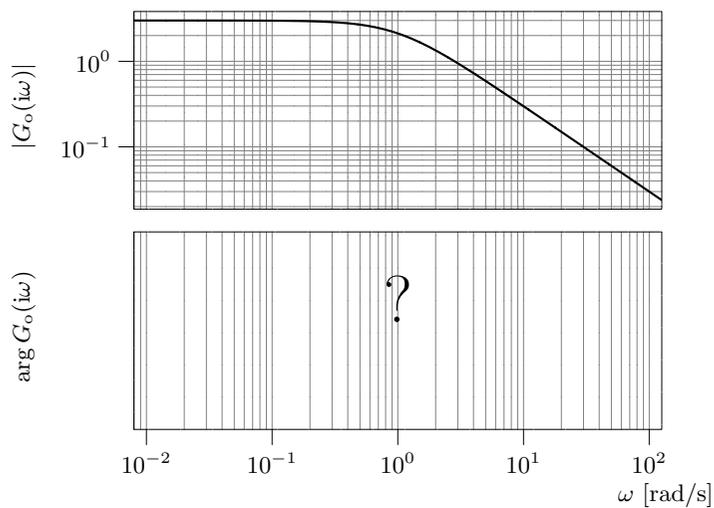

Figure 5.12a
5.12 a) A plot of the amplitude curve of a stable transfer function  $G_o(s)$  is given in Figure 5.12a. Choose one of the following alternatives regarding the stability of the closed loop system  $\frac{G_o}{1+G_o}$ :